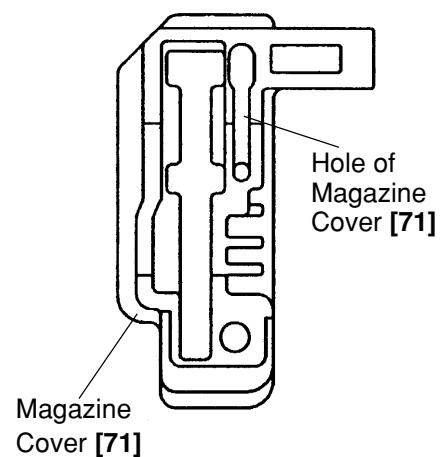

Fig. 41
- To mount the Magazine Cover [71] to the Magazine [74], mount the Nail Gate [72] to the Magazine Cover [71] and insert the Shaft [59] into the hole of the Magazine Cover [71] then secure them with the Machine Screw M5 x 20 [73] and the Machine Screw (W/Washer) M5 x 16 (Black) [70] (Fig. 41).